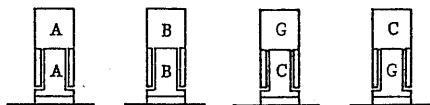

Figure 3-8
- (1) Disconnect the input power cord. Remove the cover referring to Section 4-1-3. Remove PC board A-650.
- (2) Change the connections of connectors C and G on PC board A-650 as shown in Figure 3-8. (Refer to Figures 3-5 and 3-3.)